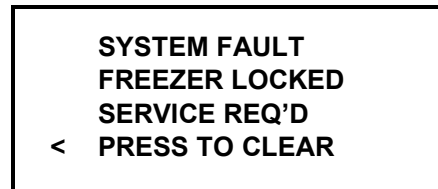

Figure 13
2. There has been a thermistor failure (freezing cylinder, hopper, or glycol) during the heat treatment process. (See Figure 13.)